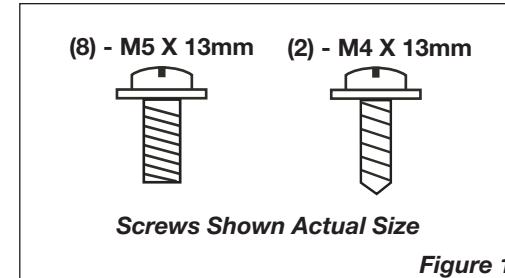

Figure 1
ASSEMBLY (Figures 1 through 6)
3. When the Heater is initially plugged in, there will be a “beep” and the **Power Light** will come on indicating that there is power to the unit. The **Power Light** will remain lit until the Heater is unplugged from the electrical outlet. (Figure 1)
6. Upon turning the Heater on, the unit will be in HIGH heat (III) (1500 Watts) and will display the current room temperature. (Figure 1)
7. Press the (⏻) button for LOW heat (I).